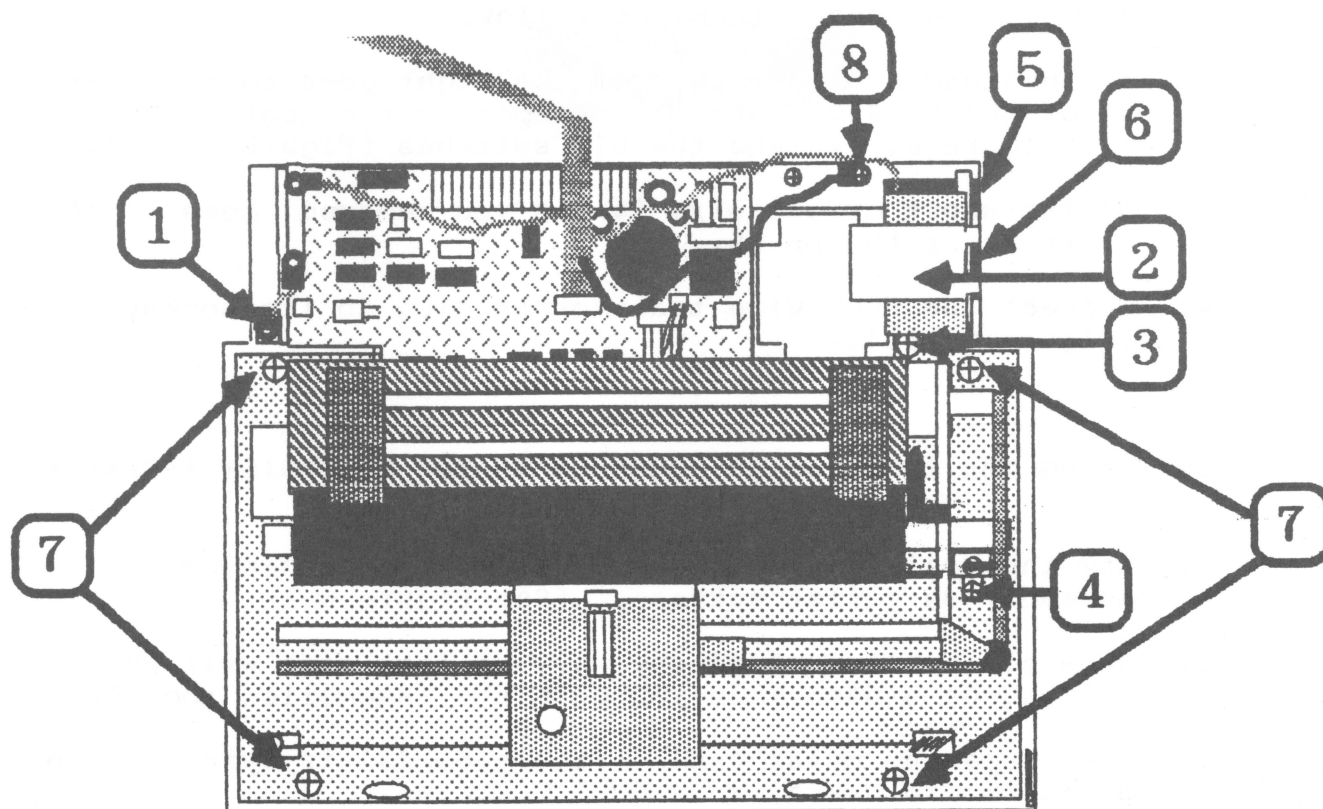

Figure 8
6. Insert and tighten the small screw at the far left, with the short ground wire under it (Figure 8, #1).
7. Insert and tighten the screw next to the transformer (Figure 8, #3). You may have to move the noise filter and wires out of the way (Figure 8, #2 -- nothing is holding them down except friction).